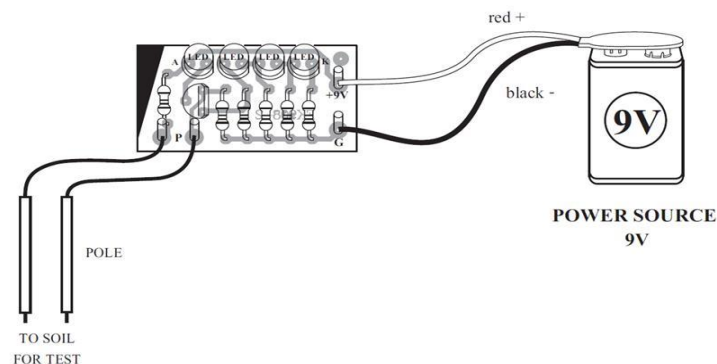

Fig 4 Attaching the wires
One by one, place the four poles into their positions on the PCB and solder into place. Once they are set, 'tin' each pole with solder. (For more information on "tinning", please refer to our separate document "Towards Better Soldering"). The battery snap can be soldered into place by 'tinning' the leads and ensuring the black wire is attached to the 'ground' (G) or negative (-) pole and the red wire to the positive (+). Finally the two remaining wires can be tinned and then soldered to the two remaining poles. (See Fig 4 for attaching the wires).